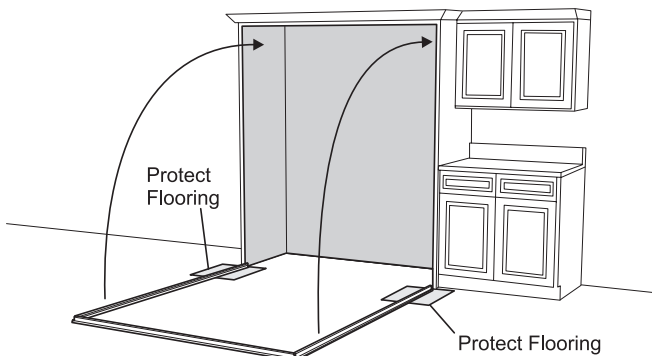

Figure 4
- First, place protective covering where side trim will contact the floor near rough opening. Then, stand up the grill and frame assembly and center in rough opening. You may need to use several pieces of tape at the top corners and top center to temporarily hold the assembly in place. See Figure 4.